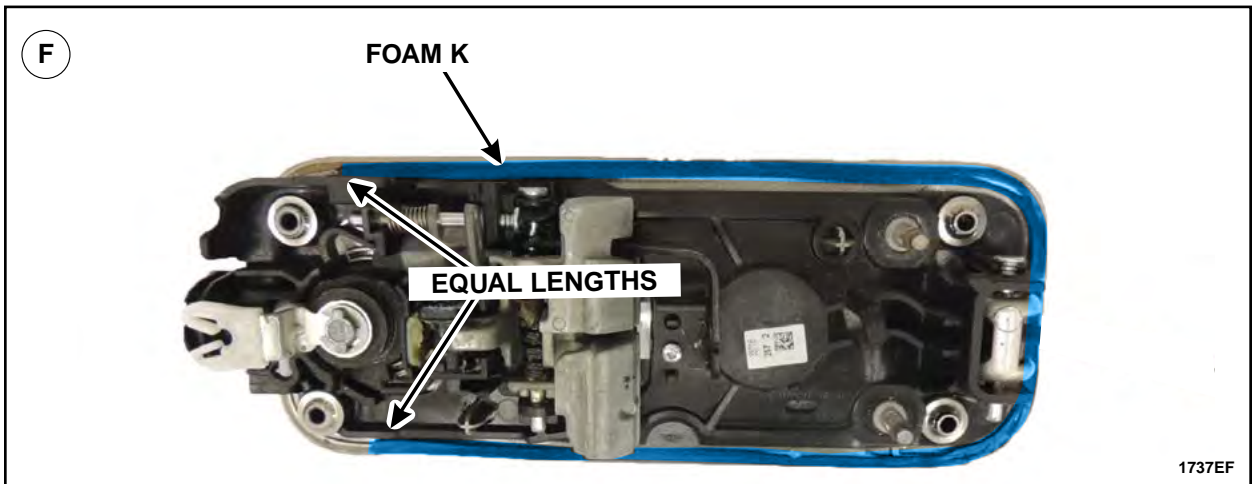

FIGURE 93
- F. Without stretching the foam adhere it to the exterior door handle ensuring that both sides of Foam K are of equal length once secured. See Figure 93.